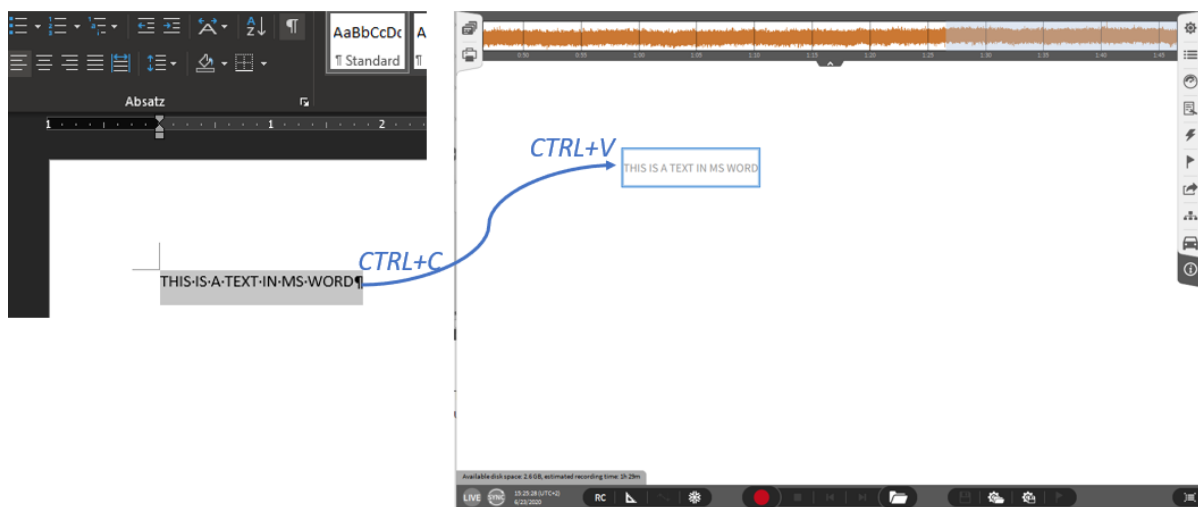

Fig. 8.101: Pasting a text to the measurement screen
**Note:** A text can also be copied and pasted directly to the OXYGEN measurement screen (see Fig. 8.101).